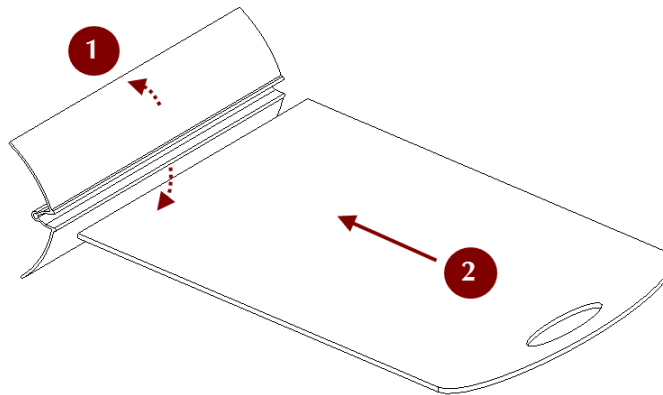

Figure 224: Assembling the rig.
3. Insert the board into the slot, as Figure 224 shows.